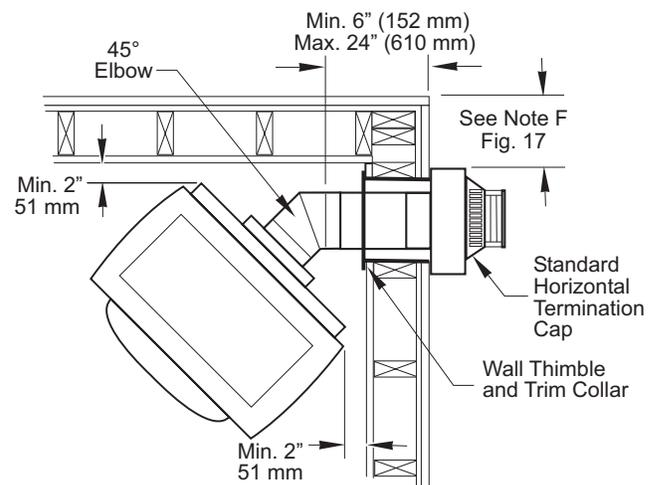

Figure 12. Corner Installation, Horizontal Termination directly off rear. Maximum Horizontal run is 2 ft. (610 mm).
- Corner Installation:** Max. Horizontal Run is 2 ft. (610 mm). See Fig. 12.